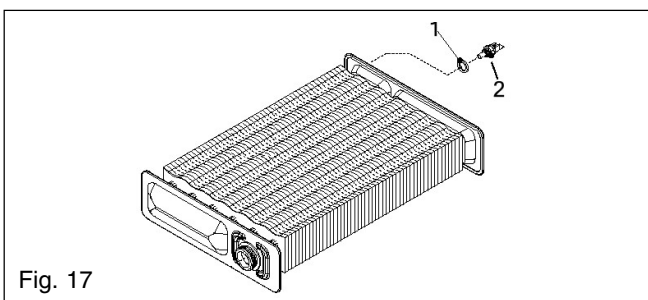

Fig. 17
**6.10 PRIMARY THERMISTOR fig. 17**